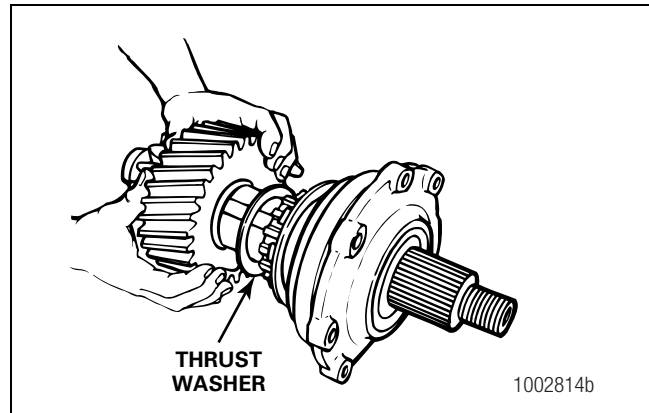

Figure 5.74
- 9. Place the thrust washer into the pilot bore on the end of the helical drive gear. The oil groove in the thrust washer must face the input shaft flange. Install the helical drive gear and the thrust washer onto the input shaft so that the thrust washer is toward the input bearing cage. Figure 5.74.